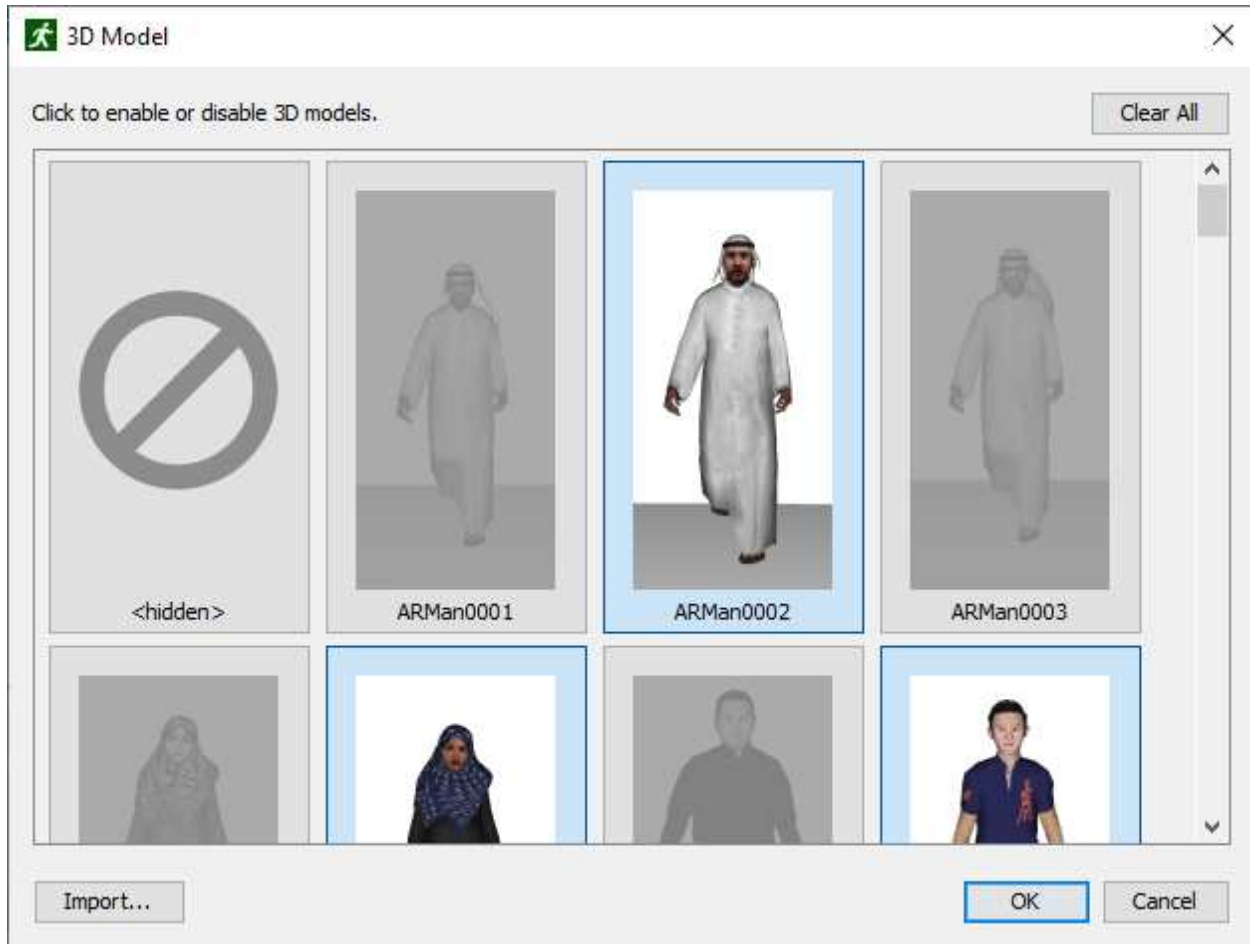

Figure 102. An example of the 3D model dialog.
1. Click **Edit** on the **3D Model** row. This will open the **3D Models** dialog (see Figure 102).